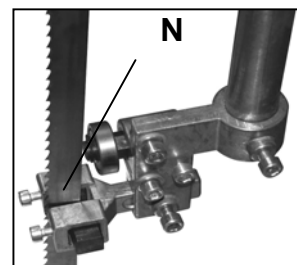

Figure 8
To mount a new blade, begin by placing the upper portion of the blade onto the upper drive wheel, teeth facing down and toward you. While doing this, insert the blade in the slot located on the upper guide body (N). (Figure 8)